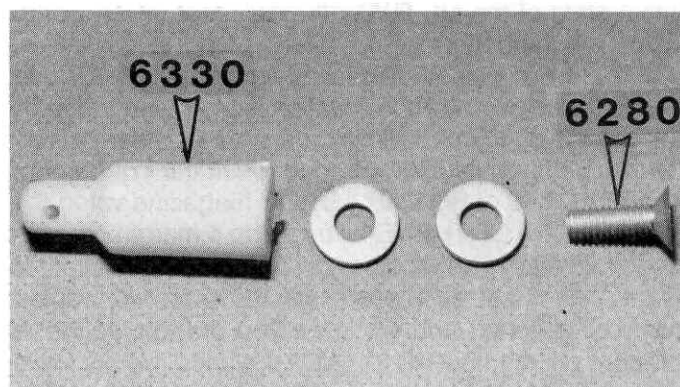

Fig. 3
□ **Fig. 3** In bag #6-5, take one #6330 body mount, 2 washers and one short screw. (The long screw is used to extend the body mounts for other body styles.)